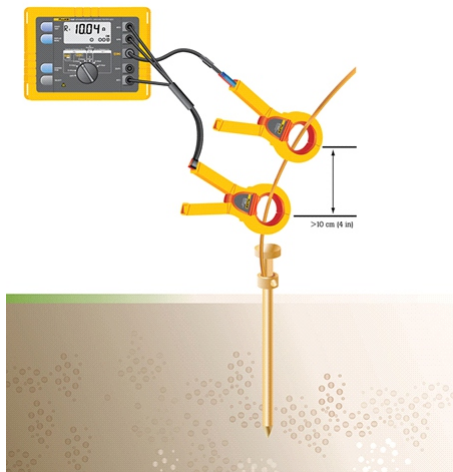

Fig. 2.10.6 Stakeless Method
3. In case there is no space for fixing Stakes then the most commonly used method is Stakeless method which can be done by using Clamp-on Earth Loop tester. In stakeless method (Refer to Figure 2.10.6) the temporary ground stakes are replaced by two current clamps. The first clamp generates a voltage on the ground conductor; the second clamp measures the current flowing due to the generated voltage. With this test method, two clamps are placed around the earth ground rod or connecting cable and each connected to the tester. As one clamp is generating a field and the other is measuring a field they should be kept apart. Earth ground stakes aren't used at all.